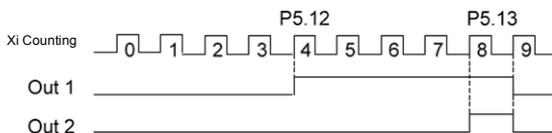

Figure6-18 Schematic diagram for the preset and reaching counting value reference
2. The terminal Yi is set to "10: Preset counting value action", and the action sequence is shown as Out1 in Figure6-18. Effective level will be output when the counting value is between the values of P5.12 and P5.13.
The terminal Yi is set to "11: Reaching counting value action", and the action sequence is shown as Out2 in Figure6-18. Effective level will be output and kept till the counting value changes when the counting value reaches the value of P5.13.